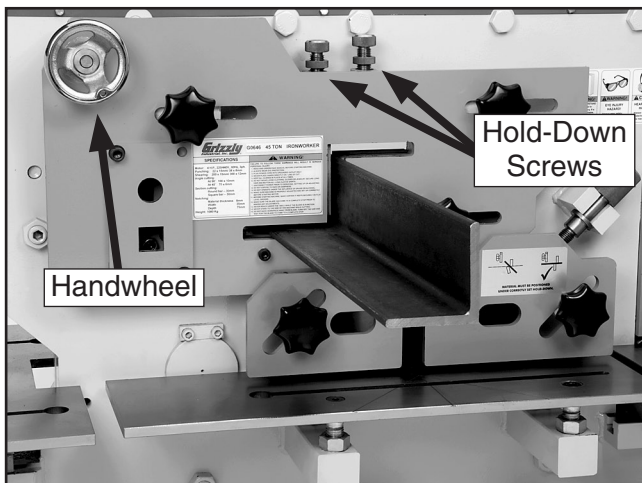

Figure 40. Example of angle iron shearing setup to make a 90° cut.
- Thread the appropriate hold-down screw up, then feed the workpiece through the front of the support frame and beyond the dies (see **Figure 40**).